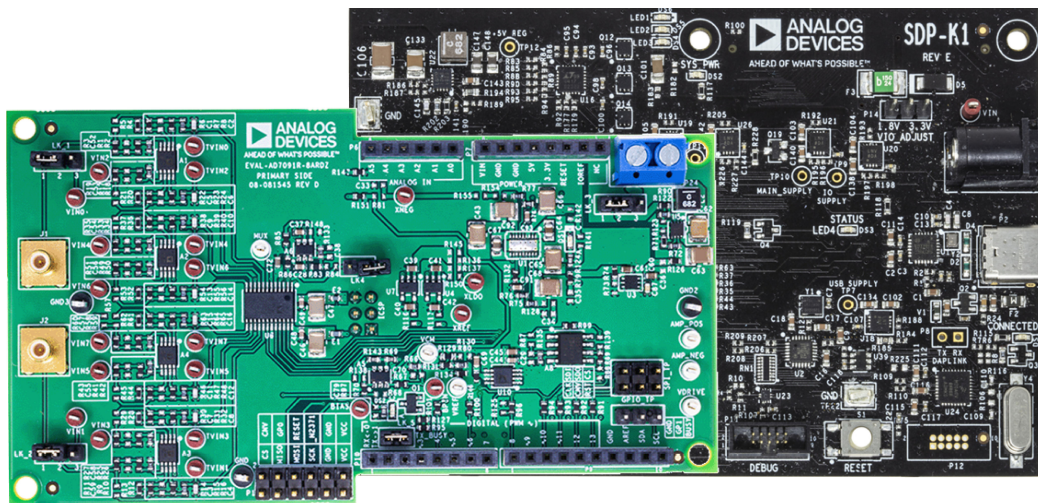

Figure 2. EVAL-AD7091R-8ARDZ (Left) Connected to the EVAL-SDP-CK1Z Board (Right)
3. Connect the EVAL-SDP-CK1Z board to the EVAL-AD7091R-8ARDZ board as shown in Figure 2.
Finally, mount the EVAL-AD7091R-8ARDZ to the EVAL-SDP-CK1Z as shown in Figure 2 which shows the connections between the EVAL-AD7091R-8ARDZ daughter board and the EVAL-SDP-CK1Z board.